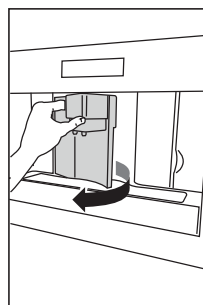
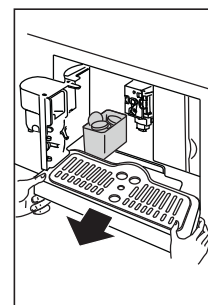

Fig. 23
Fig. 24
- ▶ Open the service door on the front of the appliance (Fig. 23), extract the drip tray (Fig. 24) and clean.